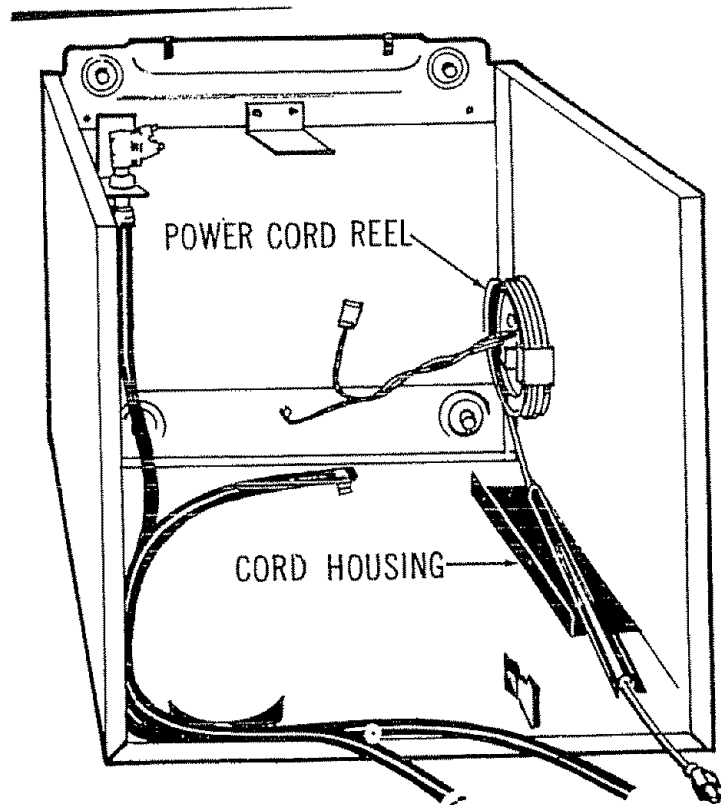

FIGURE 86
2. Remove top screws that secure housing and hose guard to cabinet. See Figure 86. Lift both pieces up and out from between tub and cabinet. Allow cord to retract or fall to bottom. Lay dishwasher on its back.